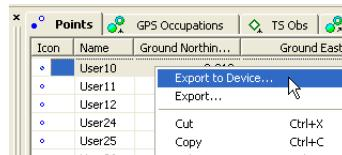

Figure 8-13. Export of the desired data to a Device
- Select the desired data and click **Job ▶ Export to Device**, or press **Shift+F4**, or click the **Export to Device** Toolbar button, or right-click and click **Export to Device** on the pop-up menu (Figure 8-13) to export data to the coordinate file format and send the created file to the Total Station.